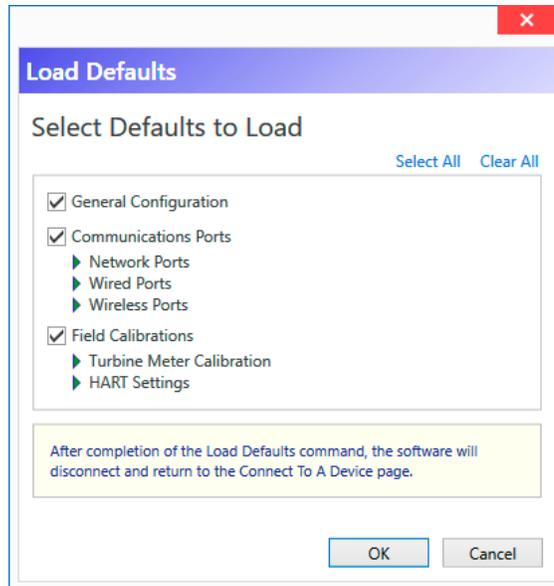

Figure 10.6—Load Defaults selections
- **Load Defaults.** Automatically reverts data values and units to factory default settings (Figure 10.6, page 90). By default, all default categories are included. However, you can individually select which of three functional groups you wish to return to default settings. As a best practice, always save your current configuration before loading defaults so that you have the option of restoring settings later, if desired.